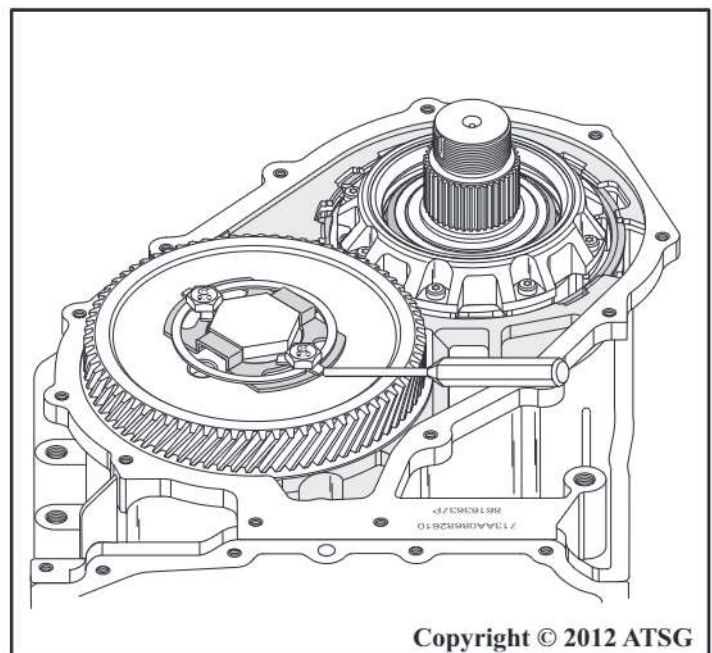

Figure 236
15. Bend the locking tabs up against the head on each bolt, as shown in Figure 236.